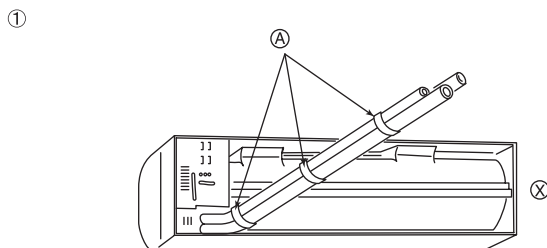

Fig. 3-4
- ① Fasten a thread to the hole.
- ② The level can be easily obtained by hanging a weight from the string and aligning the string with the mark.
① Rear, right and lower piping (Fig. 3-4)